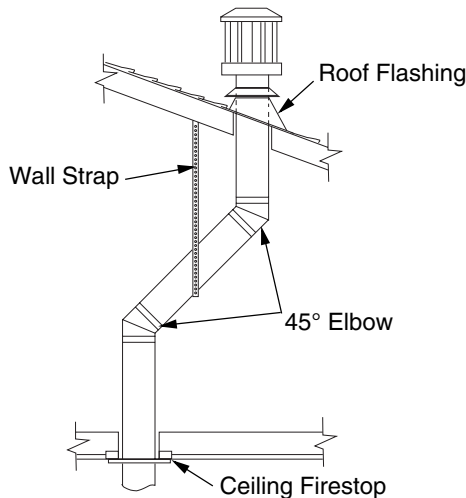

Figure 19 - Offset with Wall Strap and 45° Elbows
1. Determine the route your vertical venting will take. If ceiling joists, roof rafters, or other framing will obstruct the venting system, consider an offset (see Figure 19) to avoid cutting load bearing members. **Note:** Pay special attention to these installation instructions for required clearances (air space) to combustibles when passing through ceilings, walls, roofs, enclosures, attic rafters, etc. Do not pack air spaces with insulation. Also note maximum vertical rise of the venting system and any maximum horizontal offset limitations.
4. Connect a section of pipe and extend up through the hole. **Note:** If an offset is needed to avoid obstructions, you must support the vent pipe every 3 feet. Use wall straps for this purpose (see Figure 19). Whenever possible, use 45° elbows instead of 90° elbows. The 45° elbow offers less restriction to the flow of the flue gases and intake air.
5. Place the flashing over the pipe section(s) extending through the roof. Secure the base of the flashing to the roof and framing with roofing nails. Be sure roofing material overlaps the top edge of the flashing as shown in Figure 19. There must be a 1" clearance from the vent pipe to combustible materials.